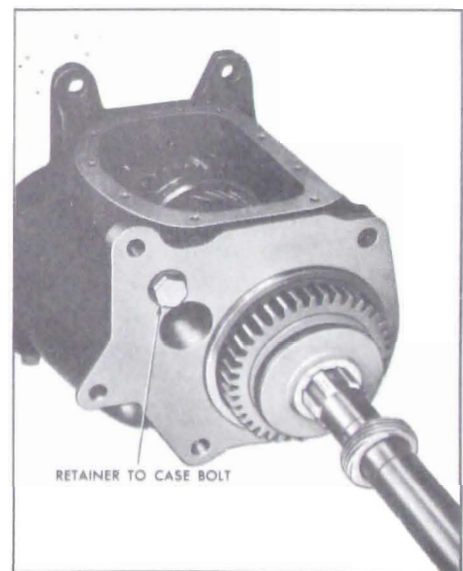

Figure 4-42—Bearing Retainer to Transmission Bolt
13. Install the self-locking bolt attaching rear bearing retainer to transmission case, (see Figure 4-42). Torque to 20 to 30 ft. lbs.